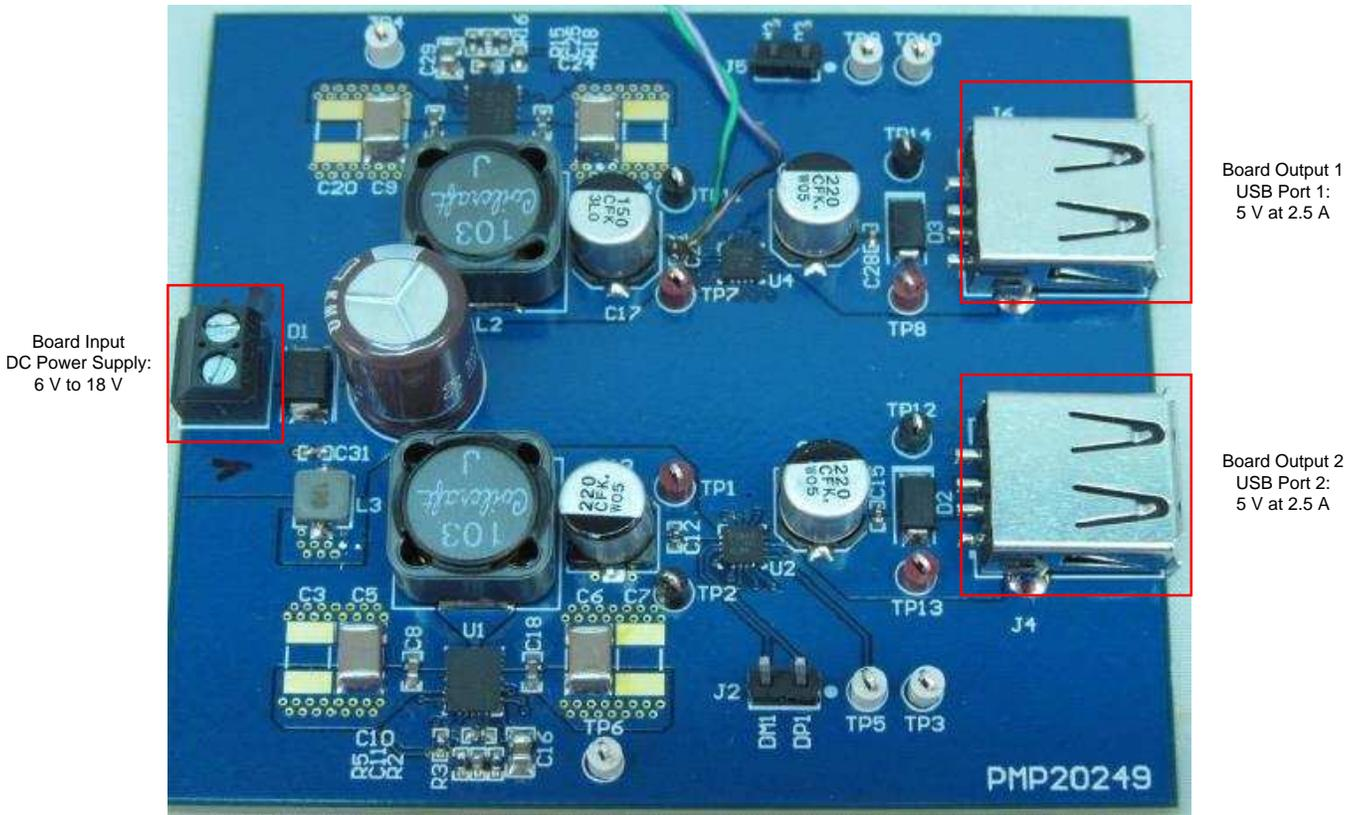

図 2. PMP20249 Board Setup
1. Connect a DC power supply to the board input as identified in 図 2.